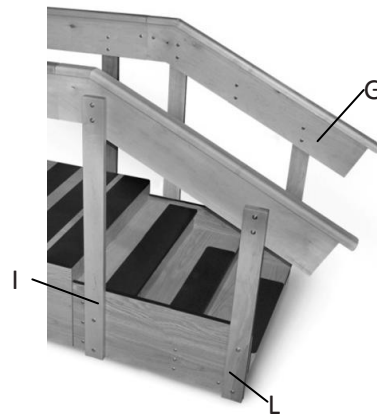

Figure 10: Long Handrail 'G'
13. Attach the Long Handrails 'G' on the inside part of the 'I' & 'L' uprights so that Barrel bolts 'S' on the handrails should be facing inwards using Pan Head/Philips screw 'R' with Flat washer 'U' as shown in Figures 10.